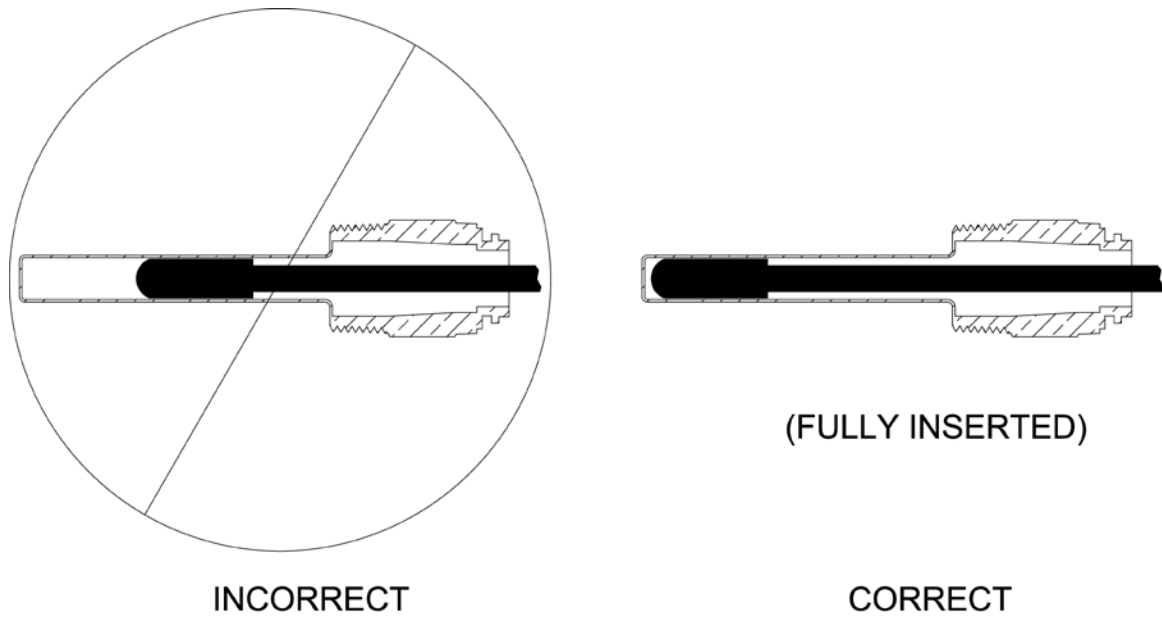

Figure 7: Limit Sensor Insertion
4. Mount the limit control onto the provided immersion well. Tighten clamp screws to secure control to immersion well. Apply heat transfer paste (not furnished) to limit sensor and fully insert limit sensor into immersion well such that the tip on the limit sensor touches the bottom of the immersion well. See Figure 7. Wire the control per Figure 16 or Figure 17, Section V "Electrical", as applicable.